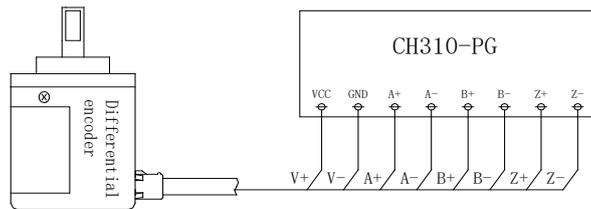

Figure 9-5 Wiring of Differential or Complementary Push-Pull Encoder
- 3、 When using differential or complementary push-pull output encoders, connect the corresponding signal wires directly to the PG card terminals, see Figure 9-5 for details.